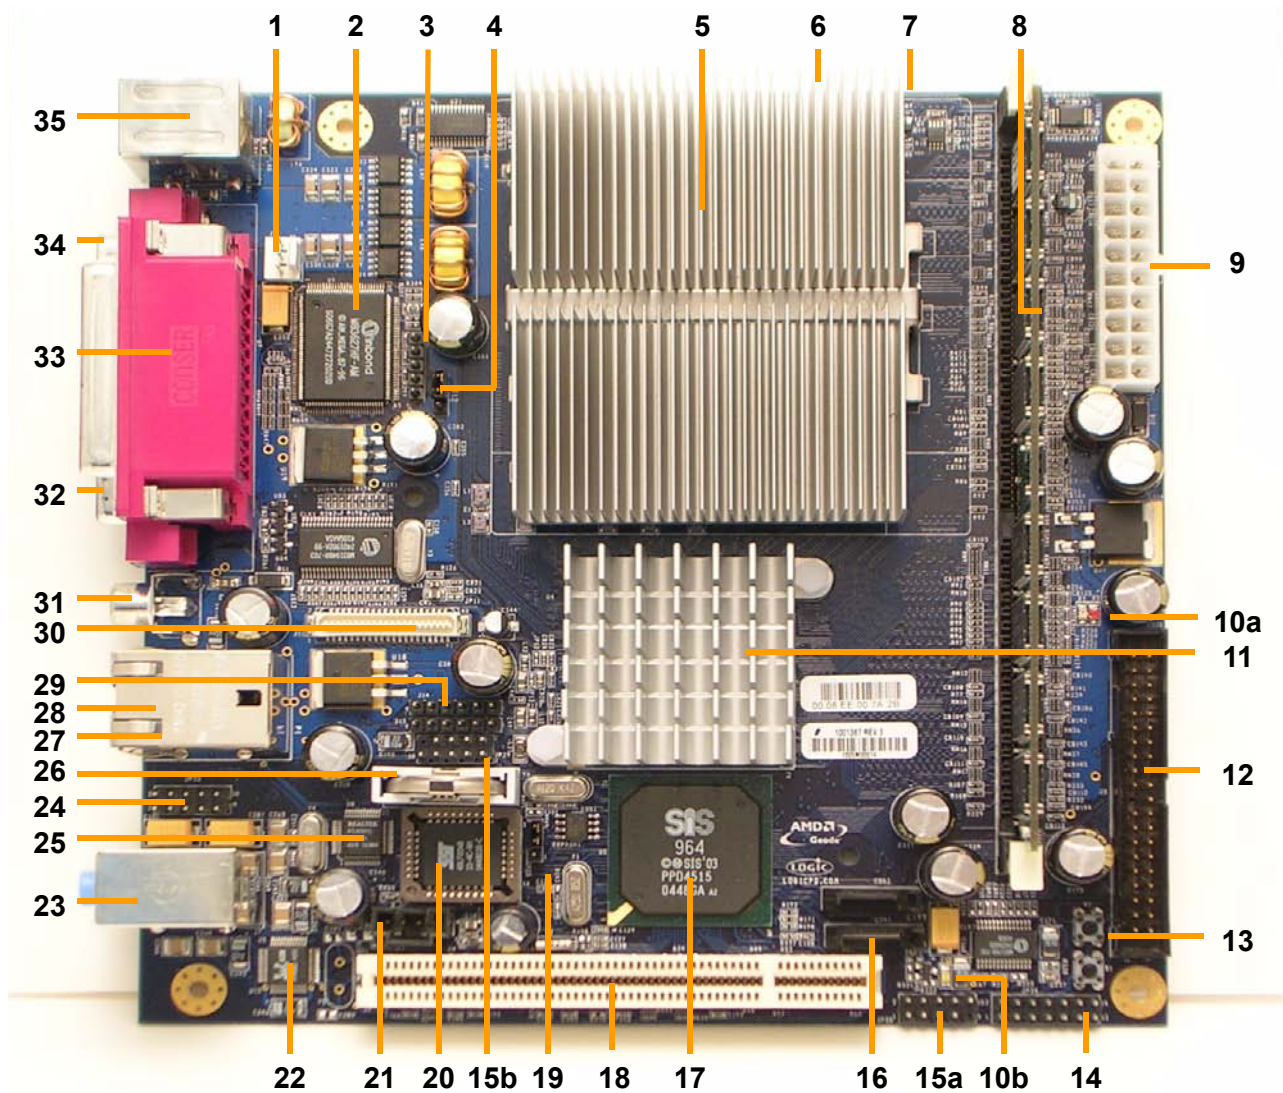

Figure 2.1 – Connection Diagram
Verify that the CMOS clock has the appropriate jumper (see Figure 2.1 "Connection Diagram" on page 7, item 19). The CMOS jumper is used to clear the data in CMOS. The data in CMOS includes system setup information such as system password, date, time, and system setup parameters. Use the following procedure to clear the CMOS contents.